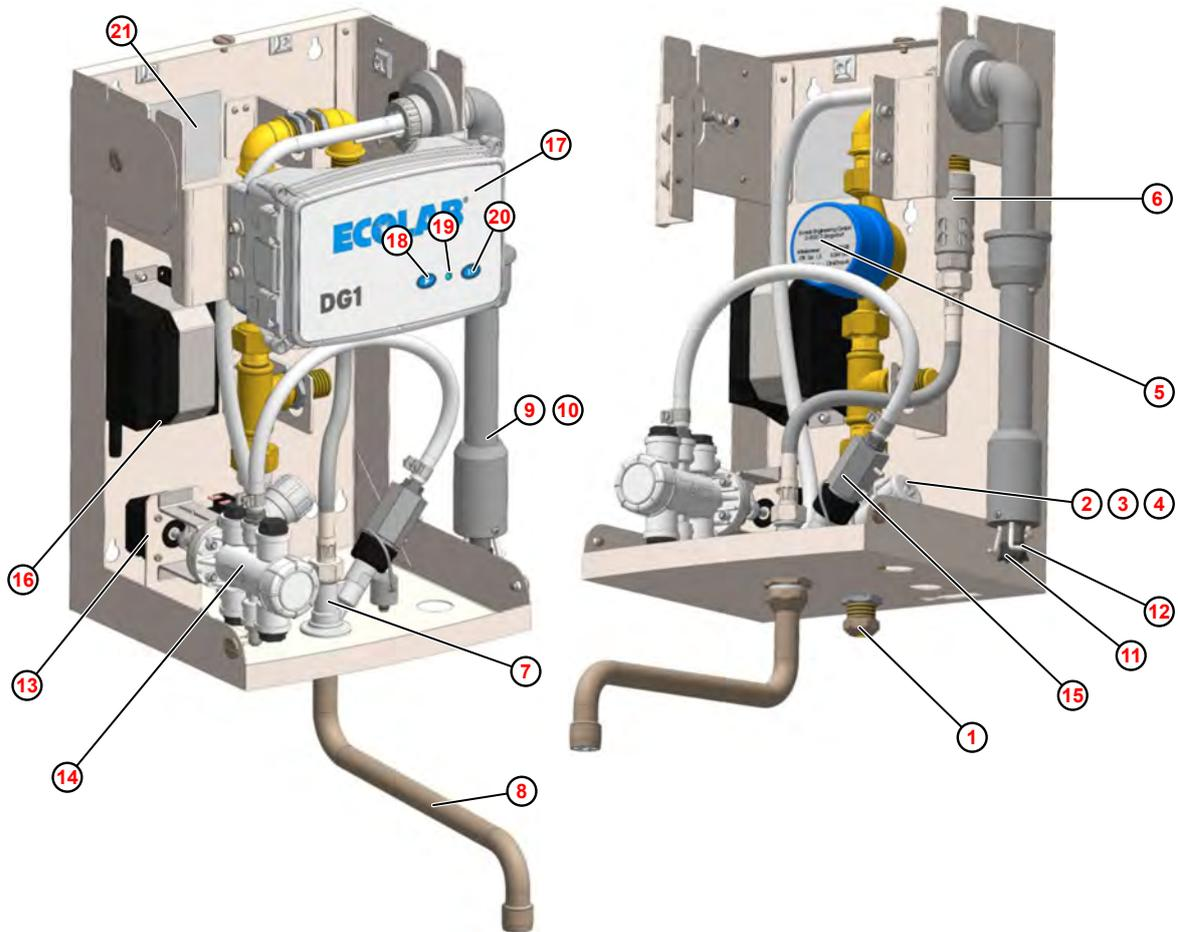

Fig. 2: Component description
To limit the max. water quantity flowing through, a quantity regulator is installed in the solenoid valve (Fig. 2 , ④) on the input side.
The flow monitor (see Fig. 2 , ⑮) positioned in front of the admission point constantly monitors the disinfectant flow.